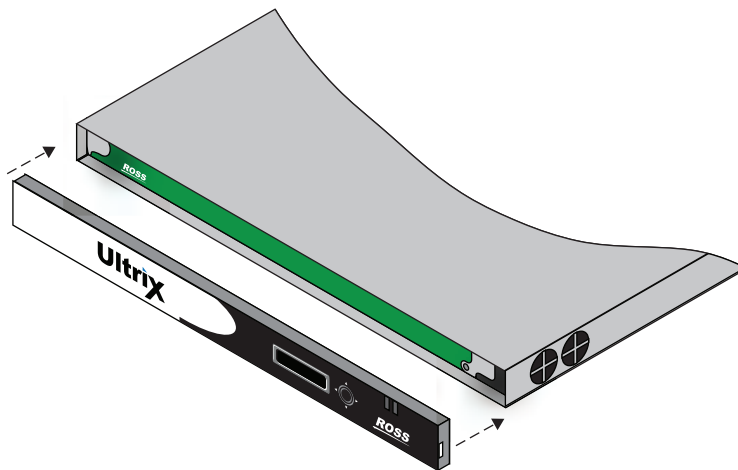

Figure 23.14 ULTRIX-NS-FR1 — Aligning the Door to the Chassis
- Align the door to the front of the router, ensuring that the door is oriented upright, the corner with the Ultrix logo is in your left hand, and the corner with the Ross logo is in your right hand. (Figure 23.14)
1. Align the door to the front of the router, ensuring that the door is oriented upright, the corner with the Ultrix logo is in your left hand, and the corner with the Ross logo is in your right hand. (Figure 23.14)